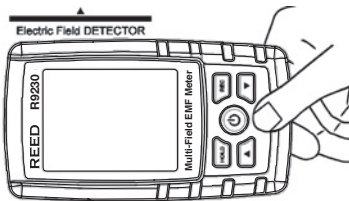

Fig.1
2. Perform all tests according to the indicated direction of the electric field sensor. (Fig. 1).